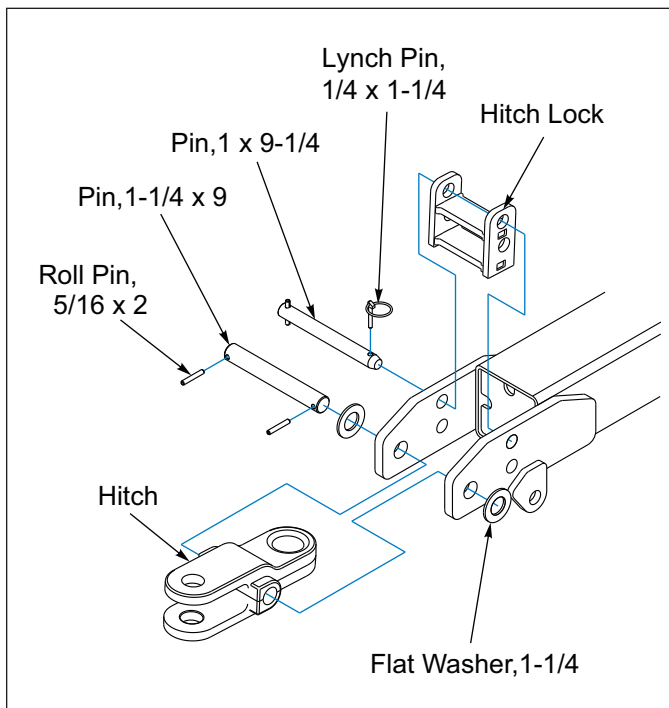

Figure 3-4: Clevis Position
- In the **Clevis Position** insert the spade end of the hitch into the Hitch Lock opening. Secure the Hitch Lock with 1 x 9-1/4 Pin and 1/4 x 1-1/4 Lynch Pin. **See Figure 3-4.**